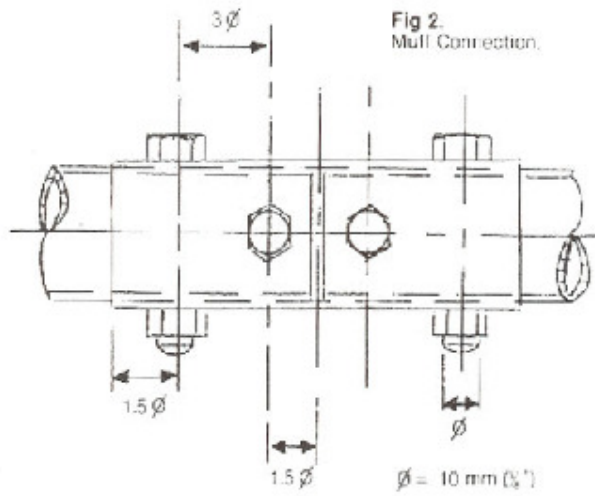

Fig 2.
- iii. Joints in the main structure are not recommended and should be avoided. If it is necessary to make a joint in the main structure then the joint shall be sleeved, especially if butt-welded, to prevent shearing of the joint. A muff connection (Fig. 2 page 35) may also be used under these conditions.
- b. The muff connection (Fig. 2).